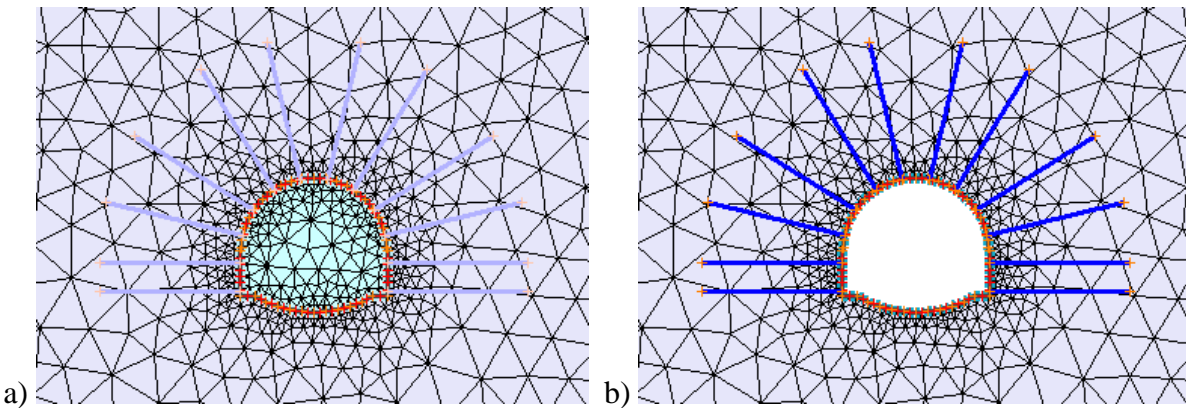

Figure 2: (a) intermediate stage -- excavation material with reduced modulus
- 3) The third step is to use the ground reaction curve (from step 1), and the tunnel convergence (from step 2), to determine the required material modulus that gives the desired convergence at support installation. Now you can create a staged excavation, with one stage used for the softening and the next stage used for the support installation. See Figure 2. To download a *Phase*² file, click phase2_material_softening.zip and open the support_installation.fea file.